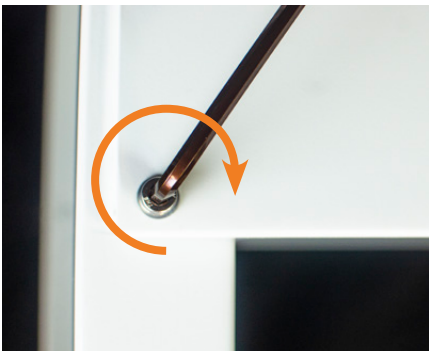

Figure 6
- Attach the Ricoma connecting plates to the stand columns upside down using the hex head screws fitted with a lock-washer and washer. Secure with the Allen wrench. **See Figure 6.**